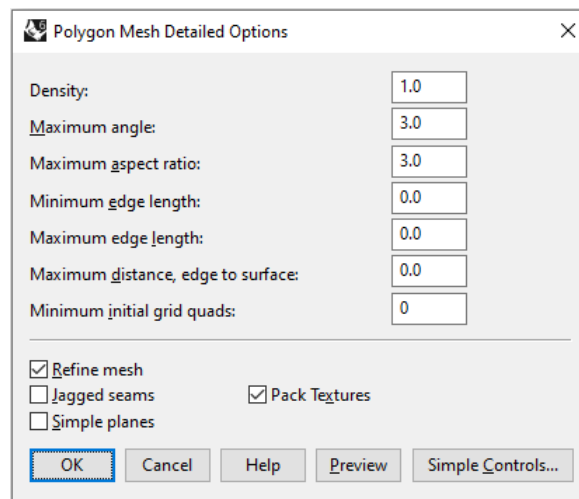

Figure 19: *Rhino* meshing dialog to create fine initial mesh.
5. Select all objects (**Ctrl+A**) and type the **_Mesh** command to create the initial mesh of all objects. Use detailed controls with the following settings to construct a fine initial mesh (Figure 19).
18. Mesh the polysurface using the **_Mesh** command with the same settings as in Figure 19. Note that the default mesh settings and *Simple Controls* can be used in this case, as there will be no issues with gaps or non-conformal faces (there is no need to have a highly detailed initial mesh).